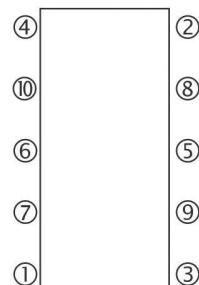

Fig.11
- 4) Loosen all the nuts in the order shown in Figure 11 (page 20). Pull back the movable follower and carefully remove the plates one by one so as not to damage them. Wear protective gloves while doing so as the edges of the plates are sharp.
- Clean and lubricate the tie-rods, position them on the frame, then tighten the nuts gradually and evenly in the order indicated in Fig. 11 until the correct dimension is obtained between the plates (tightening dimension), as specified on the nameplate. Check that this dimension is the same on each side. Overtightening may irreversibly distort the plates.
- It is recommended to perform a pressure test after all maintenance on the plates and gaskets in order to check the heat exchanger's internal and external tightness. The maximum pressure for each circuit should be equal to the operating pressure and should never exceed the rated pressure (PS) specified on the nameplate. The recommended testing time is at least 10 minutes. Nevertheless, it remains the user's responsibility to check national standards and local codes affecting such a